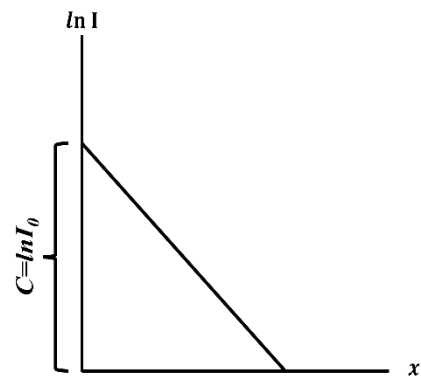

Figure: 2
- (x) Plot a graph with **$\ln I$** (Absolute value) versus thickness of the sheet (**x**). The graphs will be a straight line as shown in *Figure: 2*.
- (xi) From the graph determine the intercept **$C=\ln I_0$** and slope. The slope of the graph, according to Equ. (3), would be the value of the absorption coefficient μ of the given material (i.e., aluminum) for the radiation of given energy.